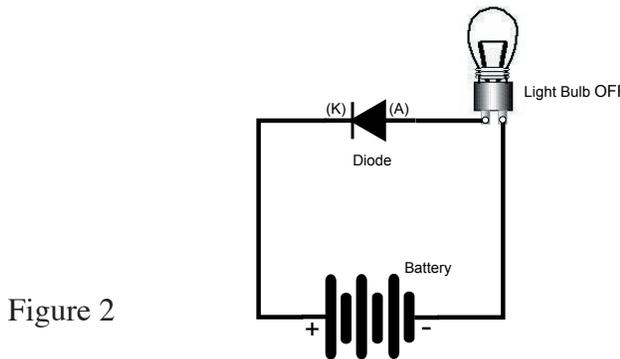

Figure 2
In Figure 2 note that the diode has been reversed. The battery's positive terminal is now connected to the Cathode (K) side of the diode. This type of connection is called Reverse Biased, and will cause current to be blocked. This prevents the circuit from being complete and causes an Open Circuit. This connection will prevent the light bulb from illuminating.